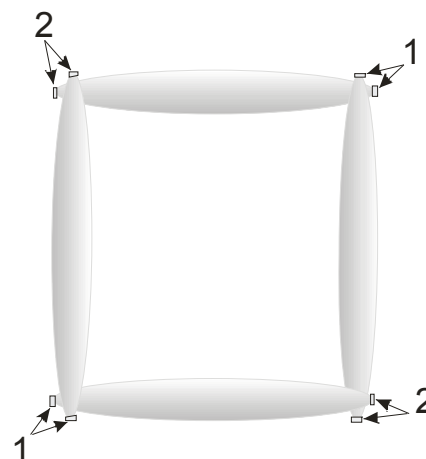

Fig. 4.7
4.12 Overlapping of DAs when installed at a place with turns of the guarded perimeter, for example, as conventionally shown in Fig. 4.7 is obtained using the same method (see section 4.10).